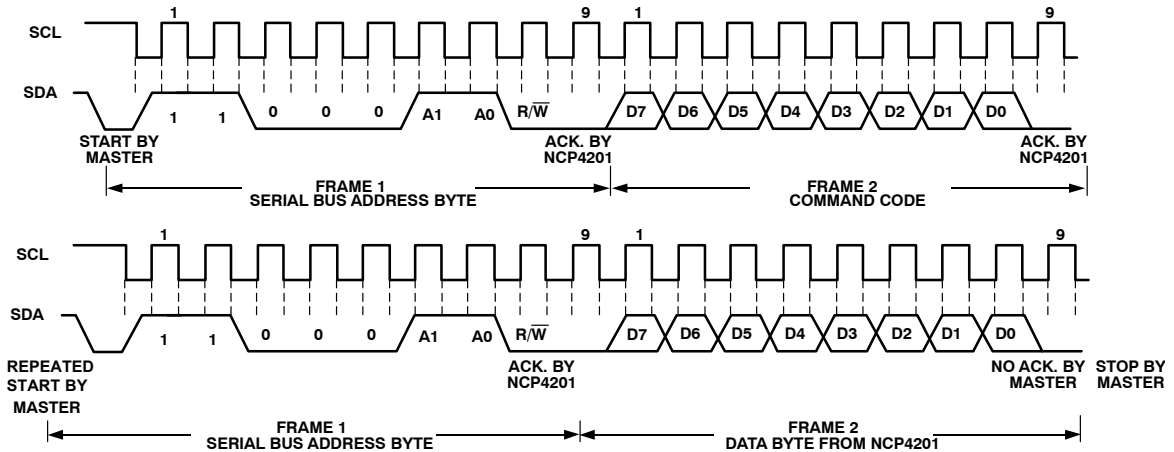

Figure 13. Read Byte
1. The read byte operation is shown in Figure 13. First the command code needs to be written to the NCP4201 so that the required data is sent back. This is done by performing a write to the NCP4201 as before, but only the data byte containing the register address is sent, because no data is written to the register. A repeated start is then issued and a read operation is then performed consisting of the serial bus address;  $R/\overline{W}$  bit set to 1, followed by the data byte read from the data register.